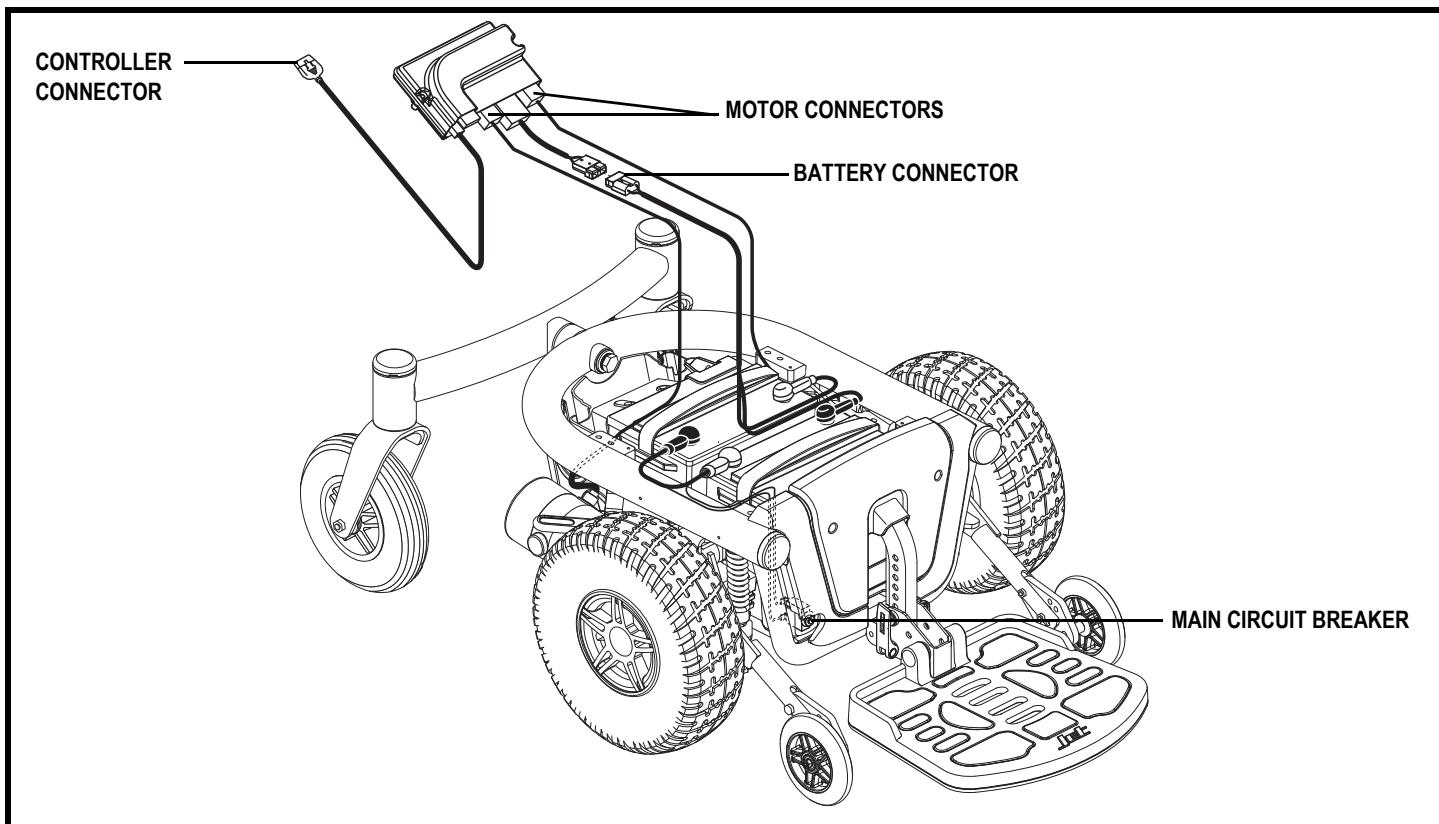

Figure 7. Jet 3 Ultra Electrical Components
The electrical components are located on the power base. The ammeter and the charger power cord receptacle are located on the right side of the power base. The main circuit breaker is located on the front of the battery tray. The controller connector and the motor connectors are located on the power pod, inside the power base. See **figure 7**.
8. Plug the motor connectors, the charger inhibit connector, and the battery connector into the power module. **See figure 7.**
2. Unplug the controller connectors from the power module. **See figure 7.**